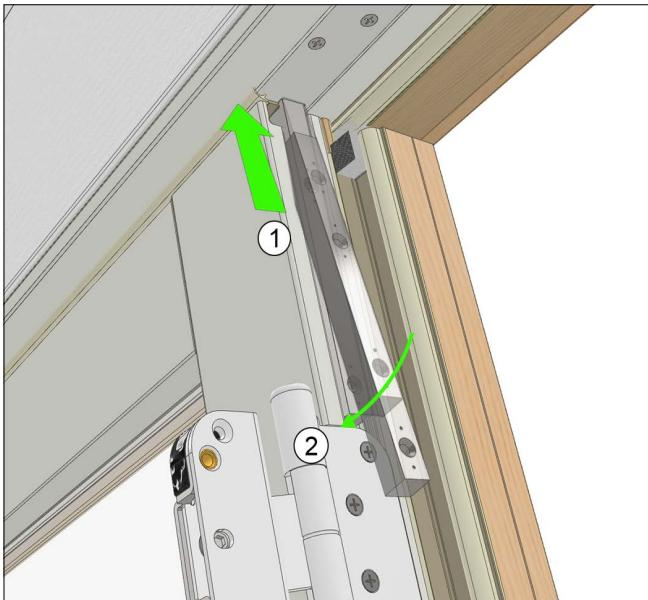

Figure 30
4. Seat the lock bar into the panel Eurogroove and up into the head jamb strike aligning top hole on lock bar to the removed screw hole already in the panel. See Figure 30. *Be mindful not to overshoot the bolt as this will cause the header to bow upward.*